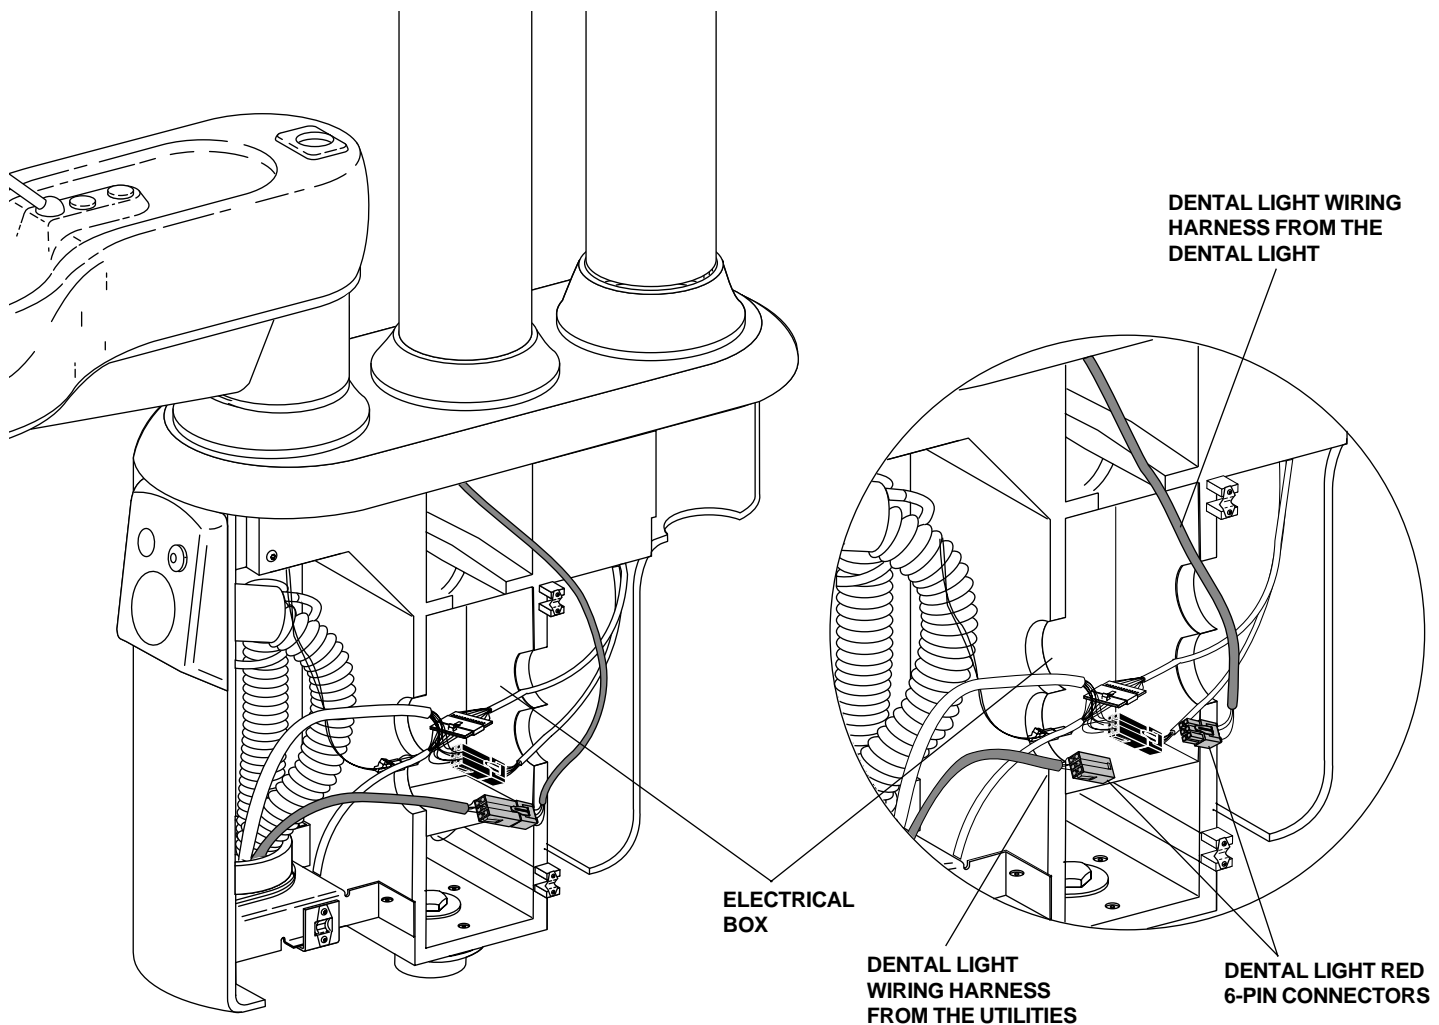

FIGURE 16
1. Inside the electrical box, locate the dental light wiring harness red 6-pin connector (see Figure 16).